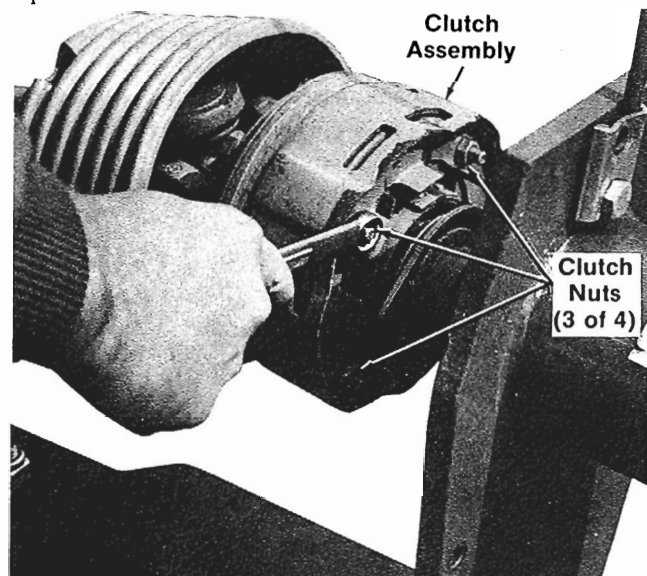

Fig. 39: Slip Clutch with Shield Removed
To activate the Clutch, first remove the Shield over the Slip Clutch assembly to gain access for tightening the (4) Nuts on the back of the Clutch assembly (Fig. 39). Then, with the tractor hooked-up, momentarily engage the PTO at idle and observe that the Friction Plates are free. When this observation is made, the (4) Nuts can be untightened and restored to their original condition before replacing the Shield. The unit is now ready to resume operation.